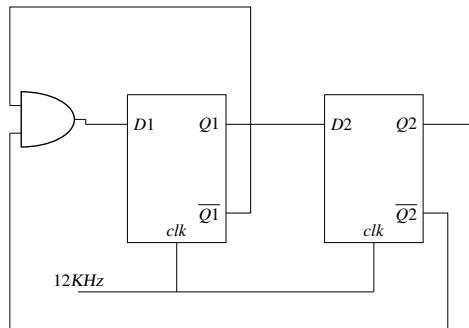

Fig. 5.17
17. In the circuit shown in Fig. 5.17, the clock frequency, i.e., the frequency of the clk signal, is 12 KHz. The frequency of the signal at $Q2$ is _____ KHz.